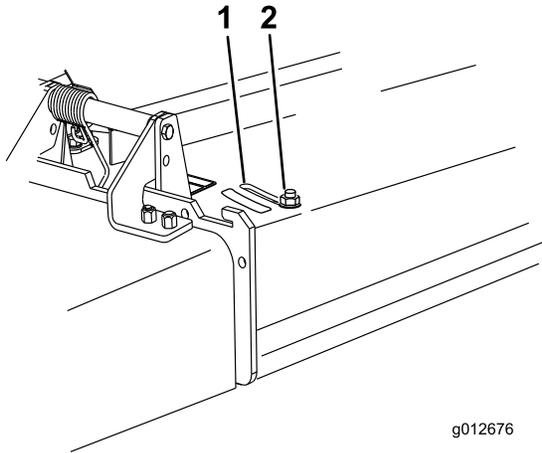

Figure 13
3. To adjust the baffle, loosen the nut (Figure 13).